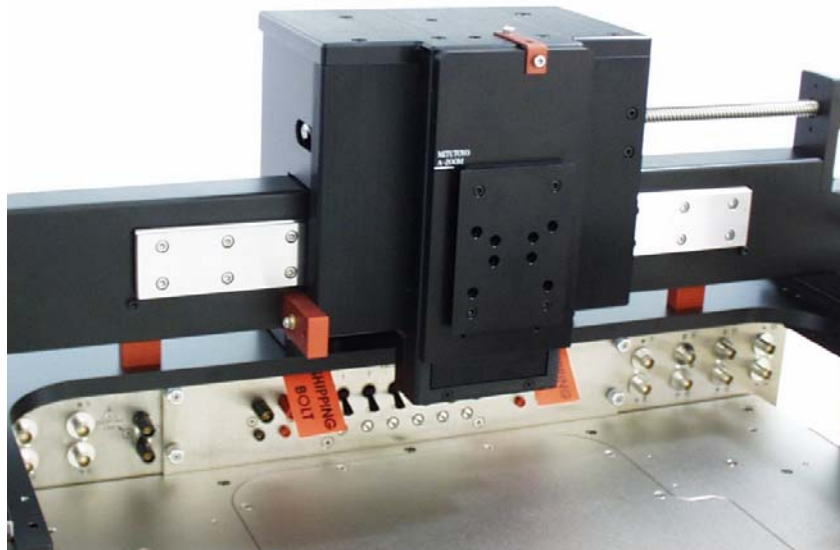
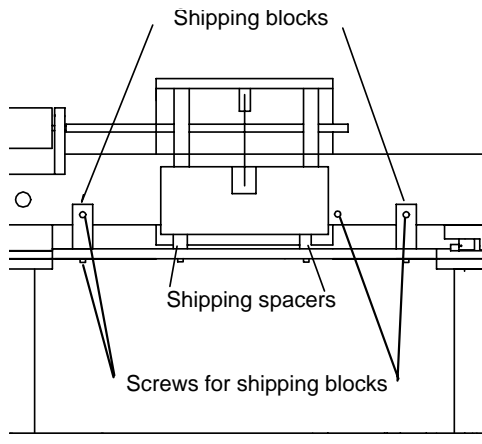
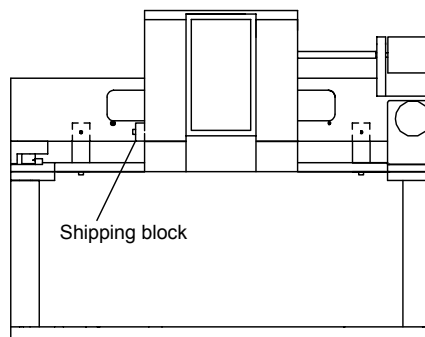

Fig. 17. Bridge shipping restraints.
Fig. 20. Shipping blocks and counterbalance spacers (rear view).
Fig. 21. Shipping blocks (front view).
1. With the 9/64-inch hex wrench, remove the two #8-32 screws securing the shipping bracket to the front of the lift plate and the top plate (fig. 17). Save the screws.
- Press down on the microscope mounting plate (fig. 17 on p. 31) to raise the counterbalance about an inch. Hold the mounting plate down at the same time you remove the shipping spacers from underneath the counterbalance. See figure 20 for the location of the counterbalance spacers.
7. Replace the back cover by sliding it into the slots in the top and secure the cover with the (2) #6 thumb screws set aside in step two. Make sure the front edge of the back cover slides into the slots in the front plate.
8. Use the 9/64-inch hex wrench to remove the (2) #8 screws (on the underside of the rail plate) which hold the shipping blocks (fig. 20).
9. Use the 9/64-inch hex wrench to remove the (2) #8 screws holding the *same* two shipping blocks to the beam, as shown in figure 20.
10. Use the 9/64-inch hex wrench to remove the (2) #8 screws holding the third shipping block (fig. 20 and fig. 21) between the front plate and beam.